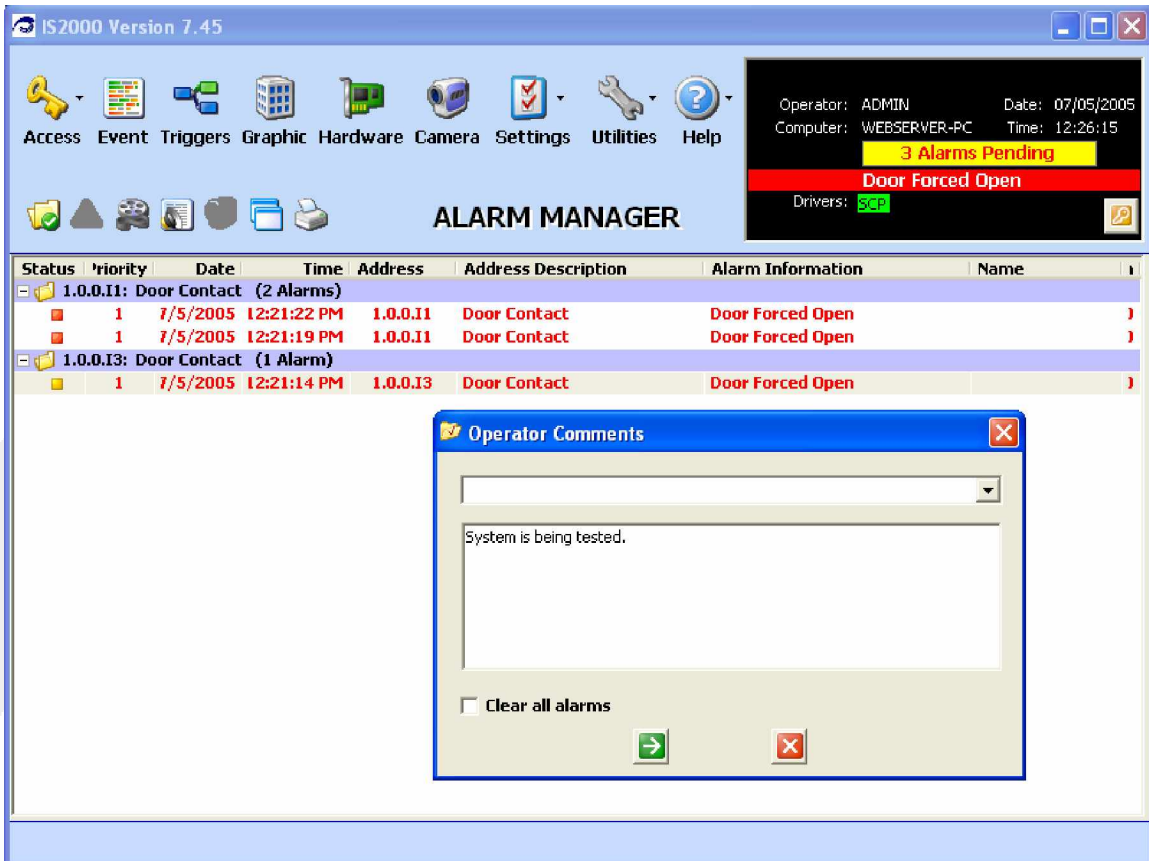

Figure 28 - Alarm Comments
1. If an alarm description is required, enter the information in the Operator Comments box and click on the green arrow button. In Figure 28, the following description was added "System is being tested."